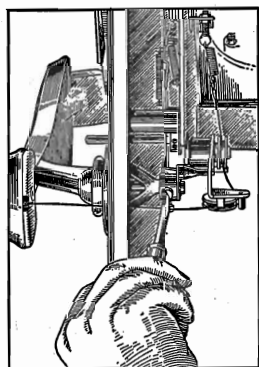
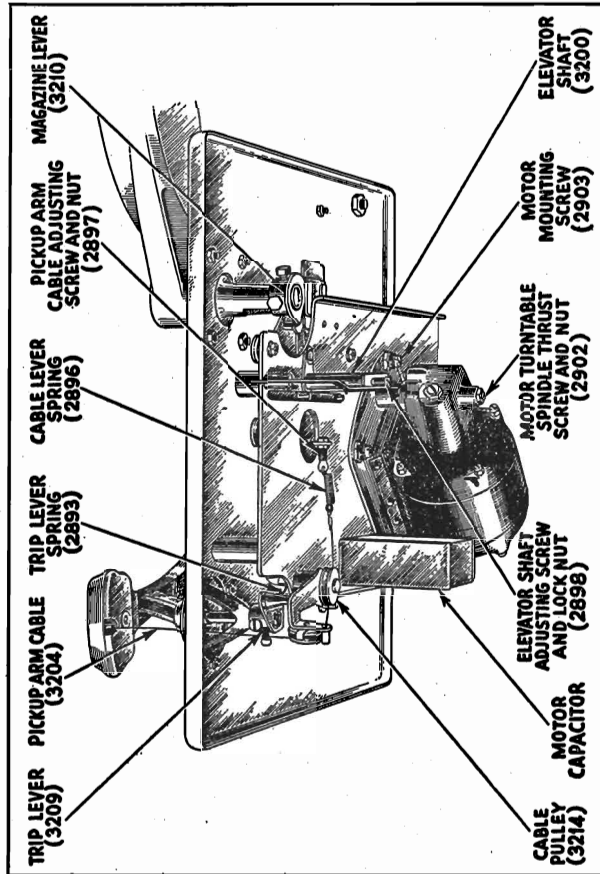

Figure 5—Adjusting position of tone arm
Figure 15—Bottom view of mechanism showing parts
- (a) Improper Tone Arm Setting. Loosen the set screws as shown in Figure 5. With the mechanism out of its cycle, press the locating lever at a point near the flat spring until the lever strikes the stop screw. Holding the locating lever, Figure 17, in this position, move the front portion of the trip lever, Figure 15, until the pin against which the flat spring presses, is making contact with the locating lever. Holding the two levers in this position, move the pickup arm until the needle is $\frac{1}{16}$ " from the first groove of a standard 10-inch record. Now retighten the two set screws shown in Figure 5.